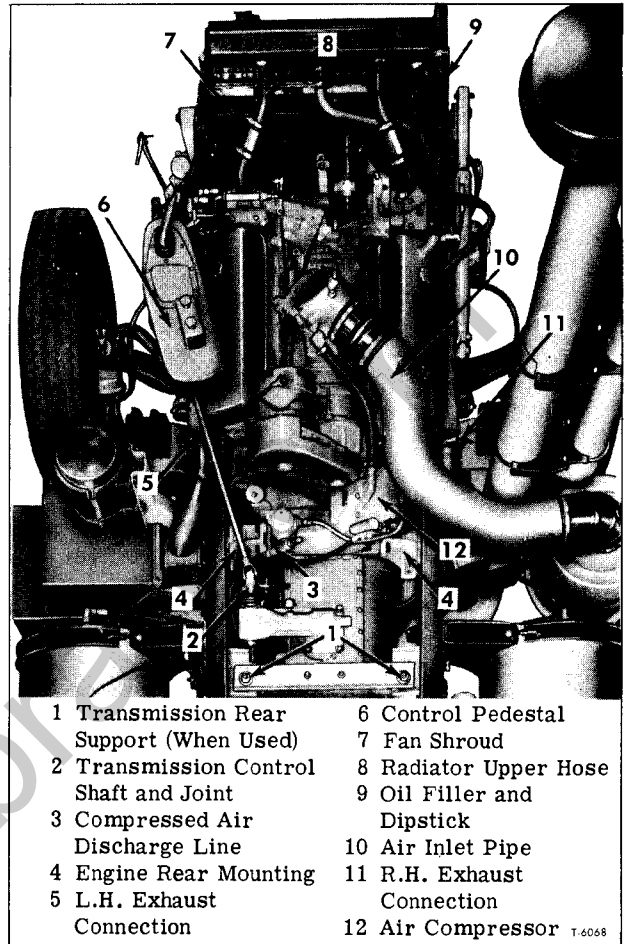

Figure 19—V8-71 Diesel Engine Installed (Tilt Cab) (Typical)
(Refer to Figure 19)
1. Install clutch, transmission, and engine trim items on engine referring to appropriate sections in this manual for necessary instructions. Figure 19 shows view of engine installation with typical accessories.